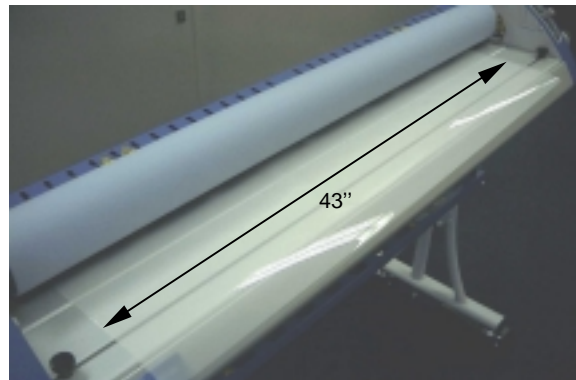

fig. 27
5. Place two sheets, with their adhesive sides facing each other, between the rollers, as shown in figure 27.